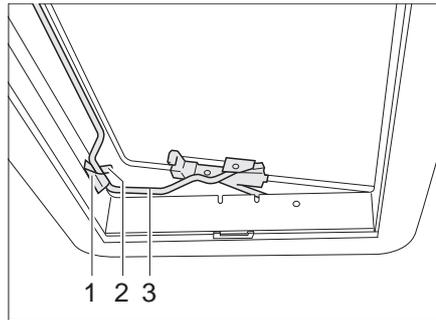

Fig. 50 Heki skylight in ventilation position 2
- Insert the bar (Fig. 50,3) into the holder (Fig. 50,1).
- Place the lever (Fig. 50,2) over the bar.